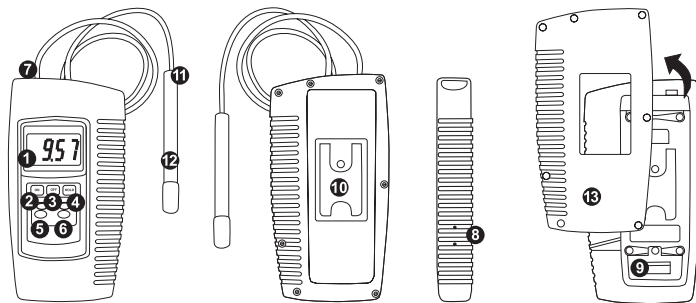

Figure 1
- 1) Connect the Conductivity Electrode (Figure 1, 12) to the Electrode Input Socket (Figure 1, 7).
- 3) Select the 2 mS/cm or 20 mS/cm range by pressing the appropriate range button (Figure 1, 5 or 6).
- 4) Holding the electrode handle (Figure 1, 11), immerse the conductivity electrode completely in the sample.
- ii) Select the 2 mS/cm range (Figure 1, 5).
- iii) Holding the conductivity electrode by its handle (Figure 1, 11), immerse it completely in the calibration solution. Shake the electrode to disperse air bubbles on it and allow measurements to stabilise. Adjust „Calibration Adjust LR“ (Figure 1, 8) until the display reads exactly 1.413 mS/cm.
- ii) Remove the protective cover before replacing the battery. To replace the battery, remove the Battery Compartment Cover (Figure 1, 9) on the rear of the meter.